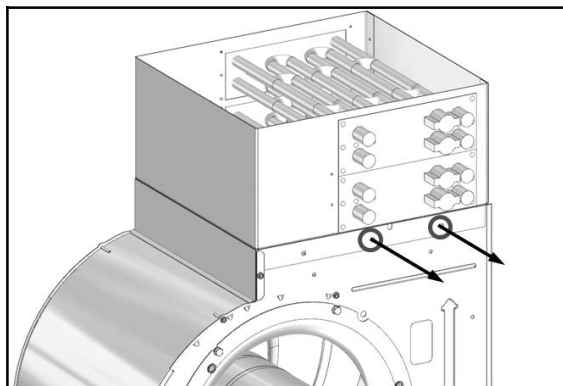

Fig. 15 — Remove Two (2) Screws
3. Remove two (2) screws on heater collar as shown in Fig. 15.